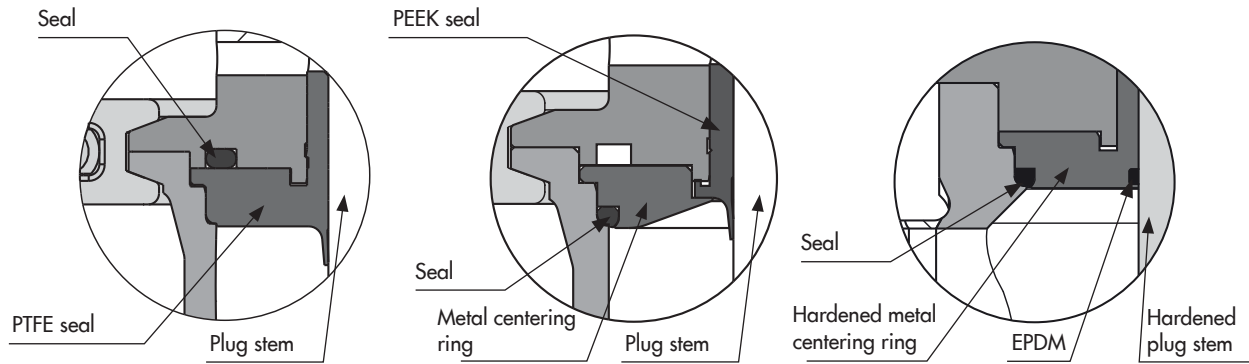

Fig. 11: Overview of seal systems in detailed view
- **Three plug stem seal systems: PTFE** (for most standard applications), **PEEK and anti-crystallizing seal** (metal centering ring with O-ring and hardened plug stem). See Fig. 11)
Principle of operation (Fig. 3 to Fig. 11)